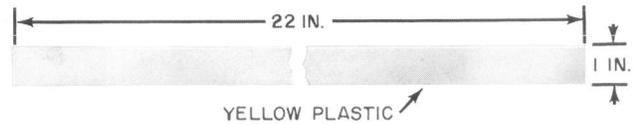

Fig. 7—G Warning Decal
- (c) **G Warning Decal (Fig. 7):** 10 inch by 1 inch strip of yellow plastic. Used in areas where a high degree of visibility is required.